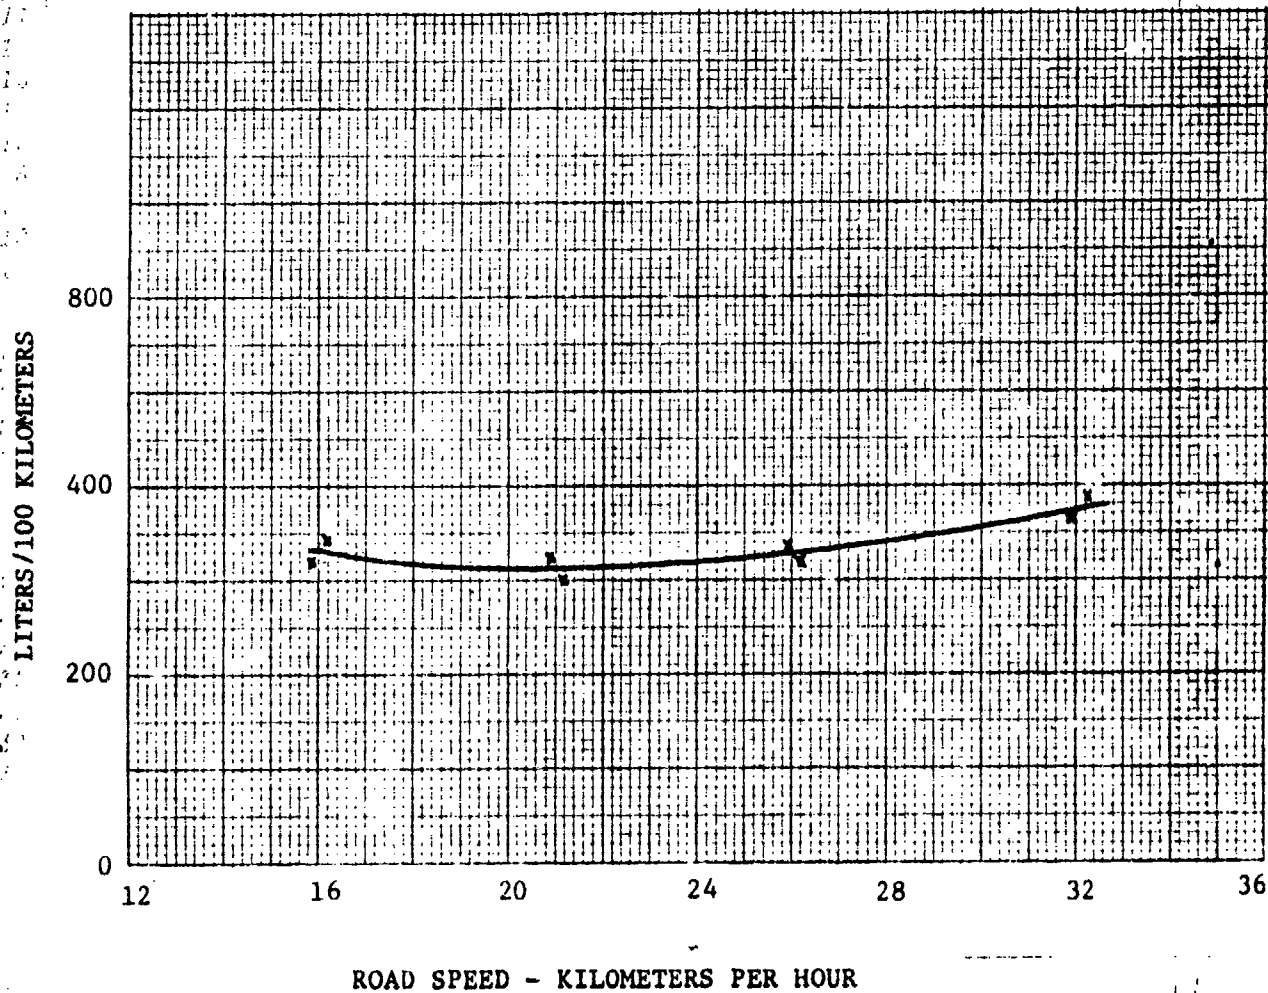

Figure 2. Sample Plot of Fuel Consumption Course Test Data.
b. Prepare graphic presentations to show the relationship between fuel consumption characteristics under various modes of operation. Typical graphic forms are described below, some of which are illustrated in Figures 2 and 3. If SI units are used in measurements, charts should be prepared with data in SI units.
(1) No-load, road-load, and full-load fuel consumption in kilograms per hour (lb/hr) versus engine speed (rpm).
(2) Standard course fuel consumption in liters per 100 kilometers (mpg and ton-miles/gal) versus road speed in kilometers per hour (mph).
(3) Road-load and full-load fuel consumption in liters per 100 kilometers (mpg) versus road speed in kilometers per hour (mph).